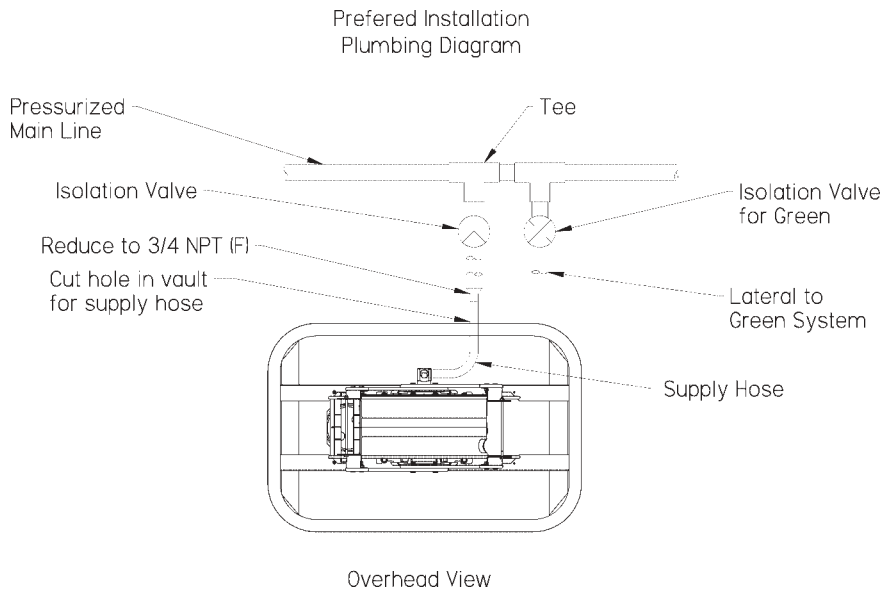
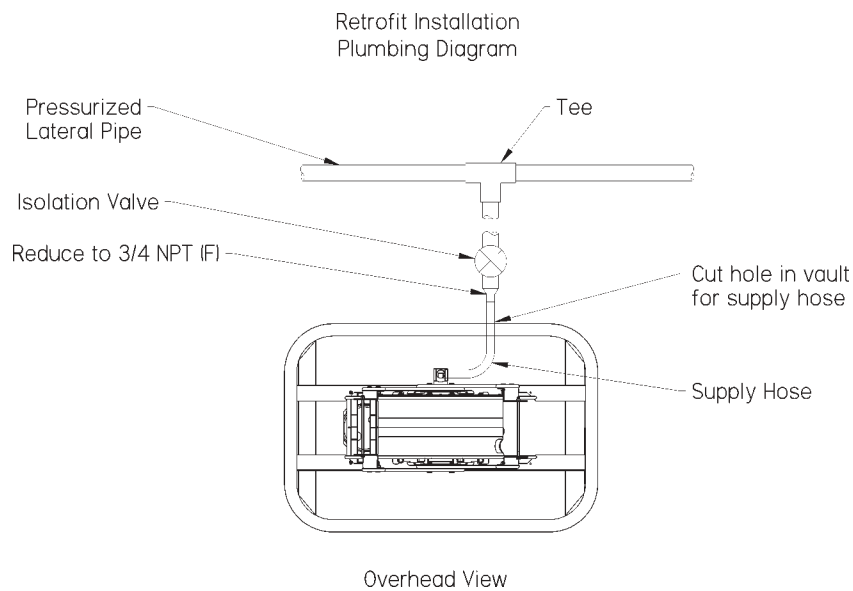

Figure 5
Figure 6
6. Connect reel to the water line. See Figure 5. Use the supplied connection hose to connect the reel to water supply. Do not use rigid plumbing for the connection; this will void the warranty.
The top cover may be removed for access to the inlet hose of the reel. A hole may be cut in the reel case at any convenient point to route the hose or pipe. Seal the hole with silicon or similar sealant after the hose or pipe has been connected. As an alternative, the supply line may enter the case from the opening in the bottom if hard pipe is used. A shut off valve is recommended in the supply line in case the reel should need servicing. See Figure 5 for preferred plumbing diagram. See Figure 6 for alternate plumbing diagram for installations using existing irrigation systems.